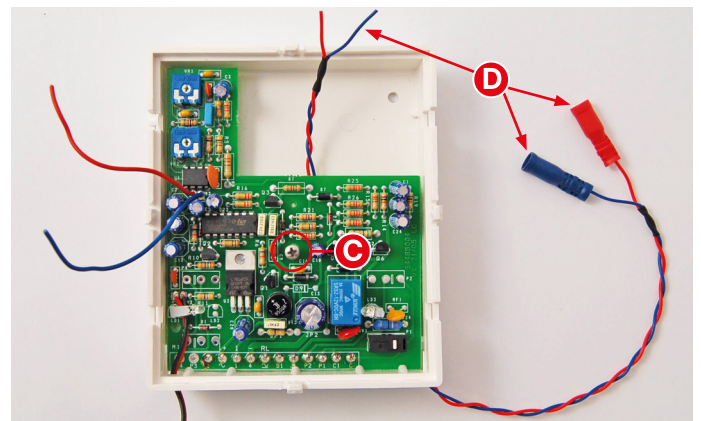
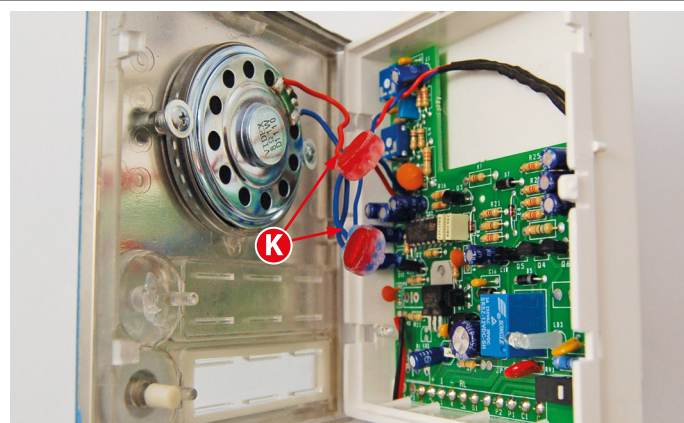

Fig. 12
Fig. 15
5. Unscrew the main pcb screw in the middle of the speaker pcb in order to manoeuvre the pcb inside the back plastic (**do not remove the pcb**), refer to **Fig.12, C**.
6. Take the **red/blue** female connector cable and feed it through the underside of the speaker pcb, coming in from the right hand side of the speaker terminals (the ends of the **red** and **blue** wires will eventually come out at the top end of the pcb) as shown in **Fig.12, D**.
14. Once both **Scotchlok™** 3 way butt connectors have been crimped, tighten up the speaker pcb screw, **Fig.12, C**, to secure the speaker pcb back onto the back plastic. Replace the wire assembly back into the back plastic as well, as shown in **Fig.15, K**.